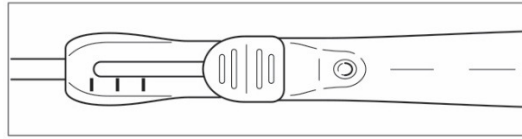

Figure 12: Handle Marks for 8mm Length Balloon
- c. When using the 8 mm length balloon, multiple inflations may be needed in order to achieve the desired result. Partially retract the balloon slide mechanism between inflations using the 5 mm handle reference marks to ensure full length treatment. See Figure 12.